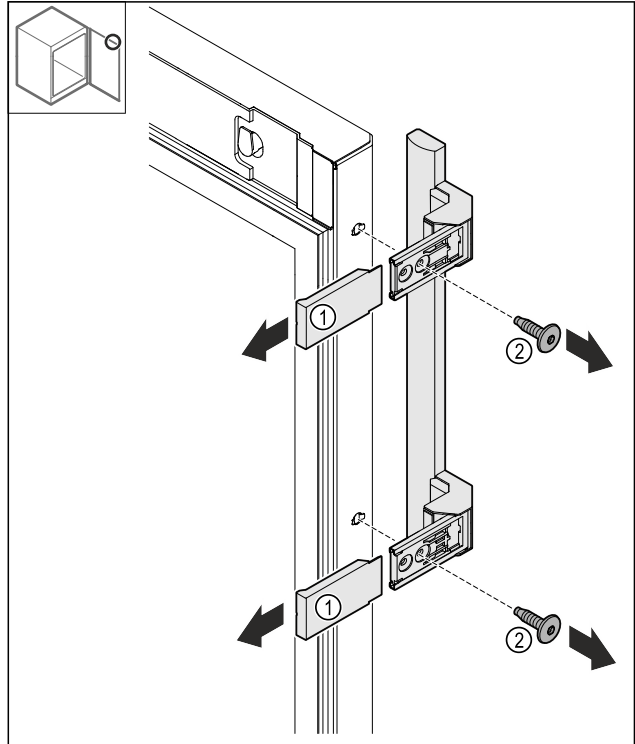

Fig. 15
- ▶ Remove the covers Fig. 15 (1).
- ▶ Loosen the screws Fig. 15 (2).